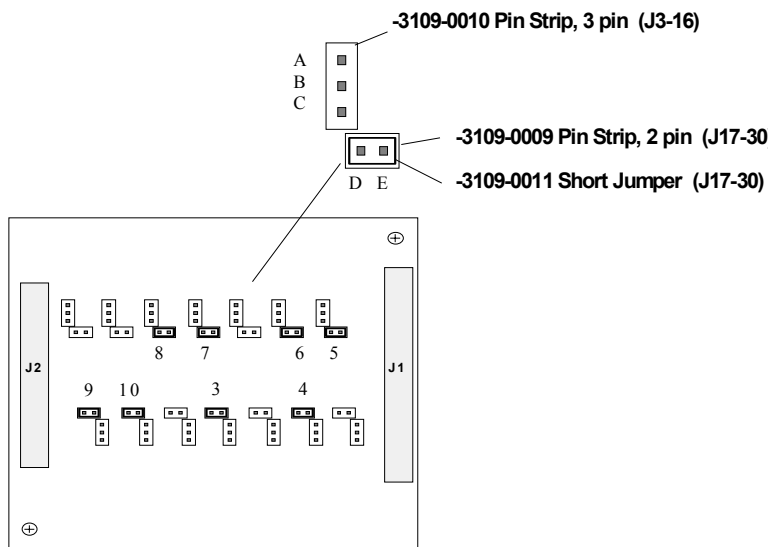

Figure 2:15 Module card, pulse input/speed
- » Using short circuit straps as in Figure 2:15 the sensor supply can be engaged or disengaged specifically for each channel.